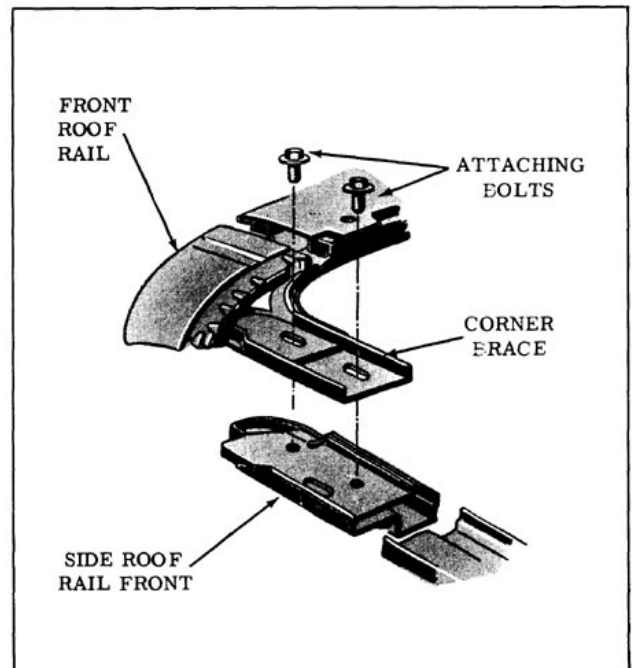

Fig. 16-119 Front Roof Rail Adjustment
2. Loosen corner brace attaching bolts and adjust front roof rail fore or aft as required. Repeat on opposite side if necessary, (Fig. 16-119)